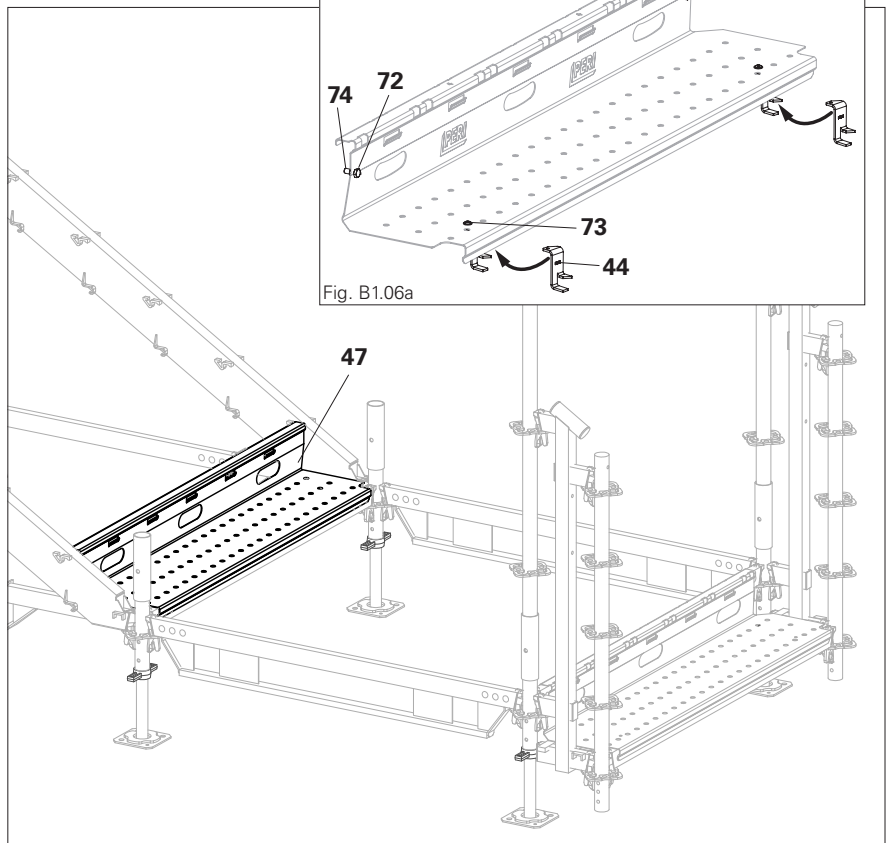

Fig. B1.07
1. Fit the lowest Stair Treads PATS 150 (47). (Fig. B1.07)